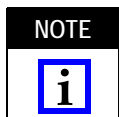

Figure 1
Extraction Tool 90471-1 extracts an individual SL-156 Receptacle Contacts 770476-[] from SL-156 Connector Housing 770849-[]. See Figure 1 for an SL-156 receptacle contact and connector housing.
2. DESCRIPTION (See Figure 1)
1. Position the extraction tool as shown in Figure 1. Insert the tip straight into the connector locking lance slot of the contact to be removed until the tool stop bottoms on the connector housing.